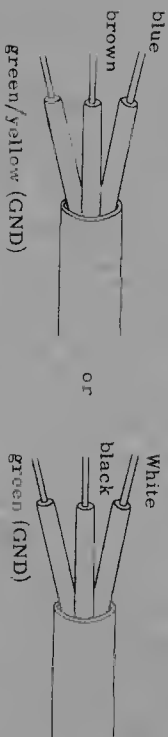

Fig. 1
- ☒ Power (cable: to 3-core cable (See Fig. 1 for the colors)